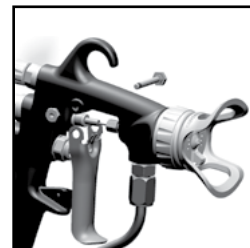

Fig. 7
1. Remove the trigger by removing the trigger screw and trigger nut. (See fig 7)
9. Replace trigger, trigger screw and trigger nut. (See fig 7)